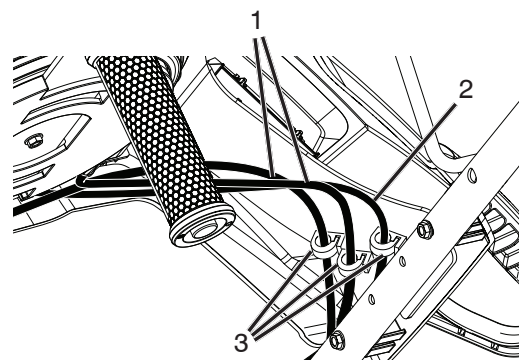

Figure 5
6. Snap two rotator cables and one wiring harness into the three cable clips (Figure 5).